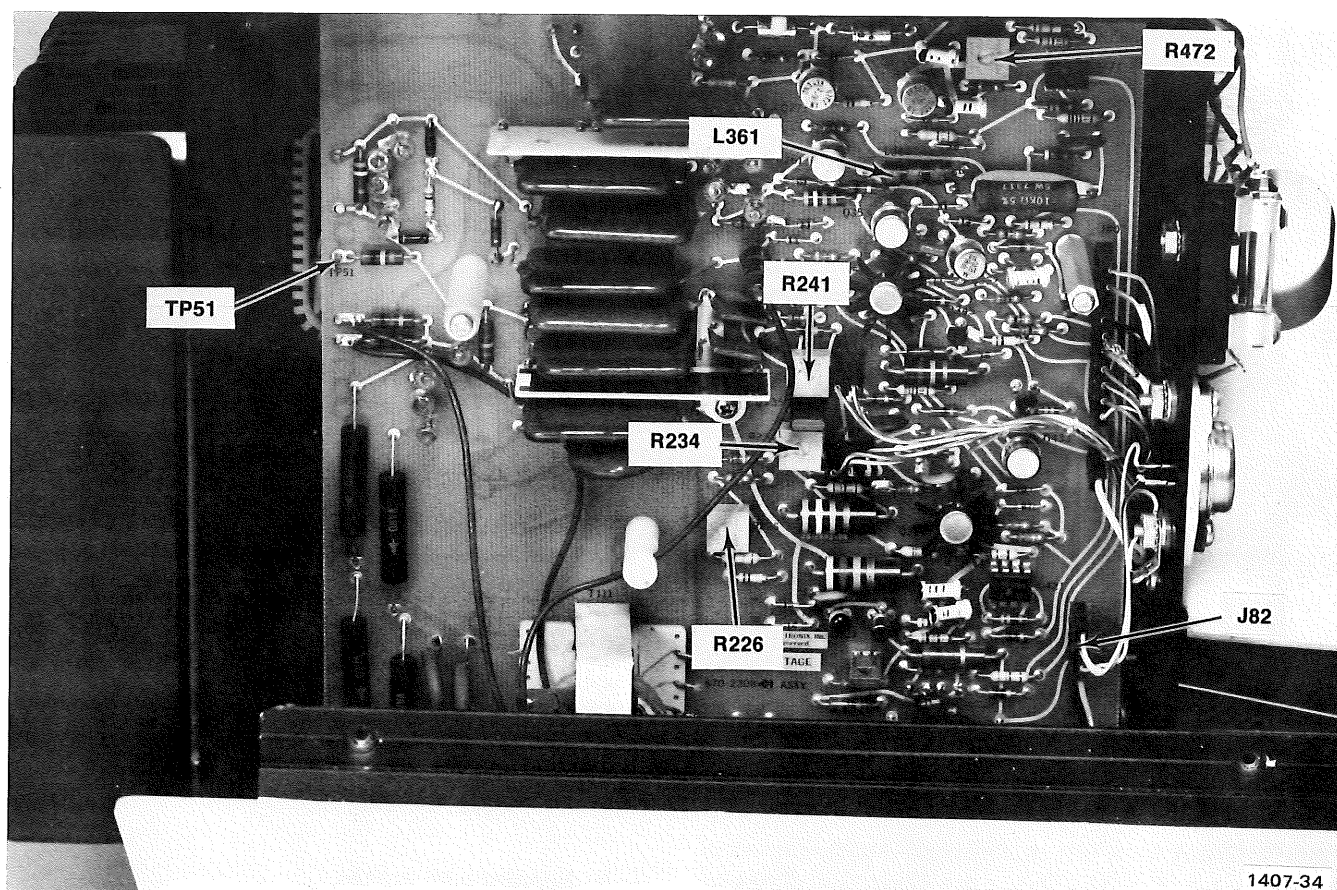

Fig. 3-3. Locations of test points and adjustments on the HV and Z-axis board.
a. Turn off the 613. Using the precision voltage divider with the dc voltmeter, connect the meter to TP51 (accessible through the High Voltage Shield at the left rear of the 613). See Fig. 3-3. Turn the 613 on.
b. Carefully adjust R234, which is on the High Voltage board (Fig. 3-3), for a dot display to determine the correct rotation to turn off the beam. Then set the control at its fully-off position.
e. Adjust R234 on the High Voltage board (Fig. 3-3) so that the single dot is barely displayed in the lower left corner; then back off the control to just extinguish the dot. If the dot is not located, turn the control off, set J9 and J10 jumpers to position 2 to put the dot in center screen, and repeat the first portion of this step. Return the jumpers to position 1.
b. Turn the 613 POWER switch off, and remove the High Voltage Shield from the 613. Turn the 613 POWER on, and connect the test oscilloscope 10X Probe to the left end of L361 on the High Voltage and Z-axis board (see Fig. 3-3).